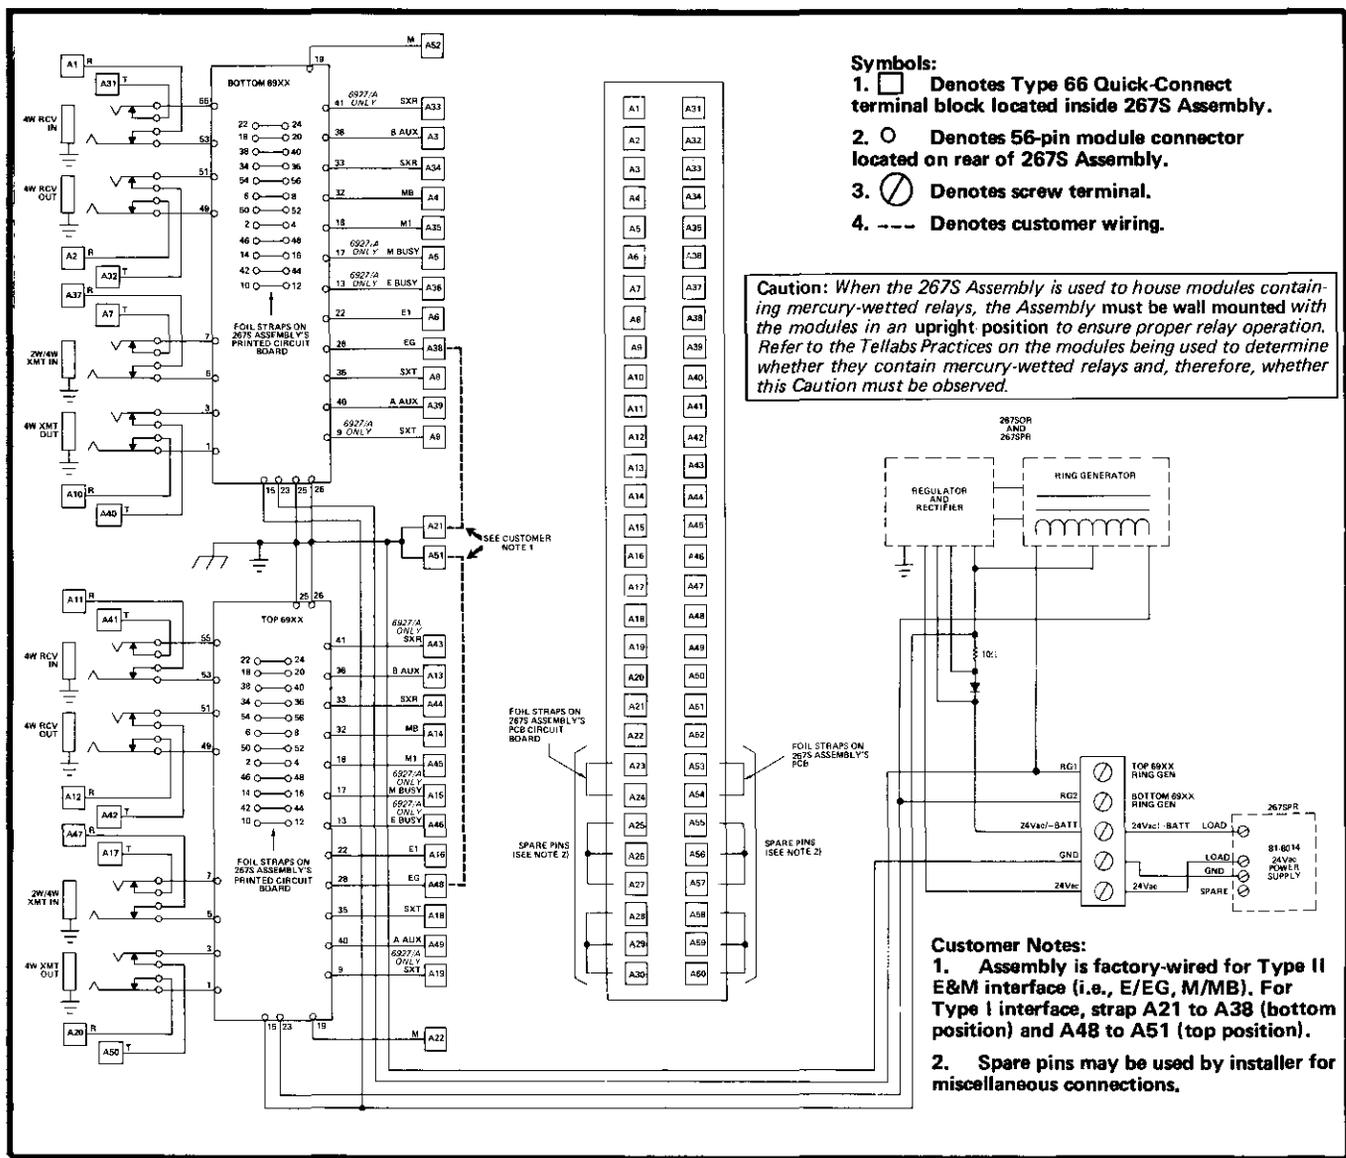

figure 3. 267S wiring diagram
3.02 All facility connections are made to a 60-pin Type 66 quick-connect punching block within the Assembly. Terminal numbers are silk-screened on the block's printed circuit board mounting; these numbers correspond to those shown in figure 3, the 267S Wiring Diagram. Figure 3 also shows the lead designations of each of the punchings used in the dedicated wiring plan, as well as the strapped spares which may be used by the installer for miscellaneous connections. Make all facility connections in accordance with figure 3.
3.03 Power to the 267S Assembly (when ordered with power) is provided by the Tellabs 8014 24Vac Power Supply. Connect the 8014 as shown in figure 3 using a twisted pair, 20AWG or larger, and no more than 30 or 40 feet long. A shielded pair, although preferable to an unshielded pair, is not mandatory. If a shielded twisted pair is used, connect the shield at the transformer, but not at the 267S Assembly unless a local telephone company ground is not available. If a telephone company ground is used, strip the shield back from the power leads and insulate the shield with tape to prevent incidental ground contact with the chassis. Connect the power leads as shown in figure 3, but do not plug the 8014 into the wall until after the properly optioned modules are installed.
Vdc (refer to paragraph 1.05) filtered battery to the input power terminals of the Assembly's barrier-type terminal strip. Use either a twisted pair or a shielded twisted pair, 20AWG or larger and no longer than about 20 feet. Connect the positive power lead to the GND terminal on the barrier strip and the negative power lead to the -BATT terminal (see figure 3).